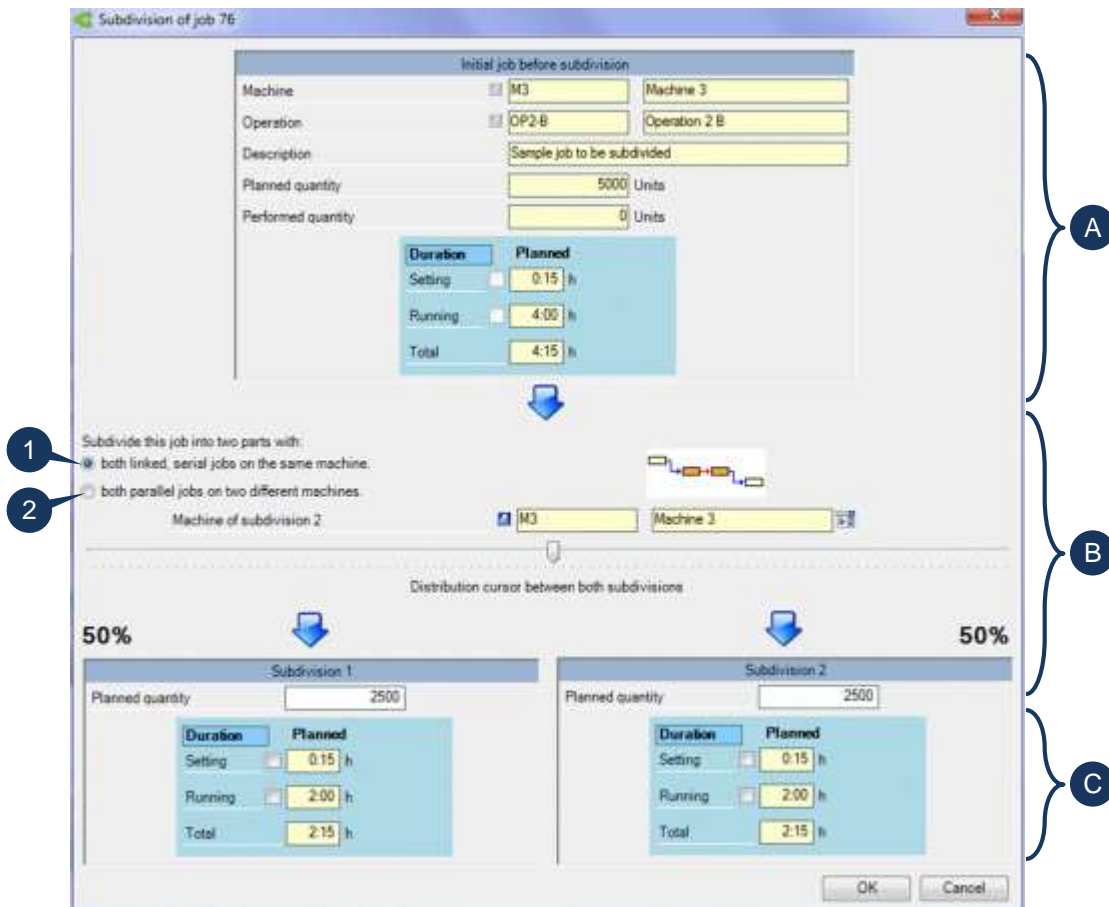

Figure 74 – Subdividing a job
Leave the button ❶ selected ⓪ (Figure 74 page 132).
Select ⓪ the button ❷ (Figure 74 page 132).